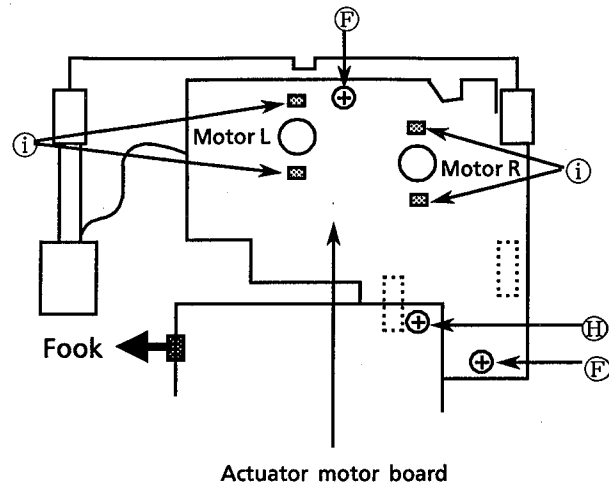

Fig. 32
1. Unsolder 4 soldered point ① for both motors. (See Fig. 32.)
2. Remove a screw ④ securing the CD servo board. (See Fig. 32.)
4. Remove 2 screws ⑤ securing the actuator motor board. (See Fig. 32.)